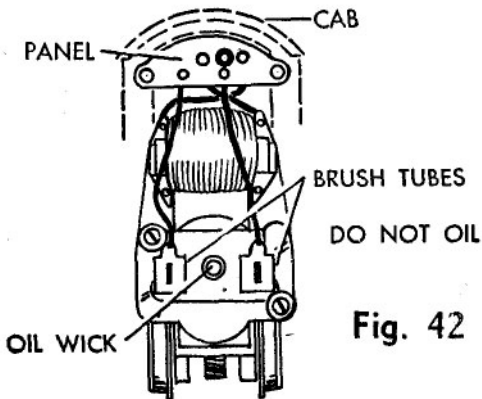

Fig. 42
Study Figs. 42 and 43, and using a small bottle of high grade fine oil (Sewing Machine Oil) and some vaseline, proceed as follows:
1. The rear motor bearing wick reached through the rear of the locomotive cab. See Fig. 42. (Be careful not to get oil in the brush tubes.)